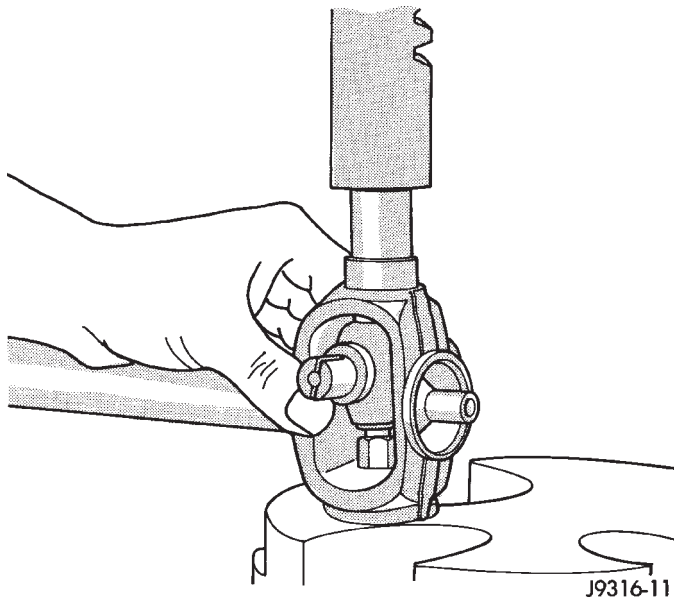

Fig. 28 Press In Bearing Cap
(4) Press the bearing cap into the yoke bore enough to install a snap ring (Fig. 28).